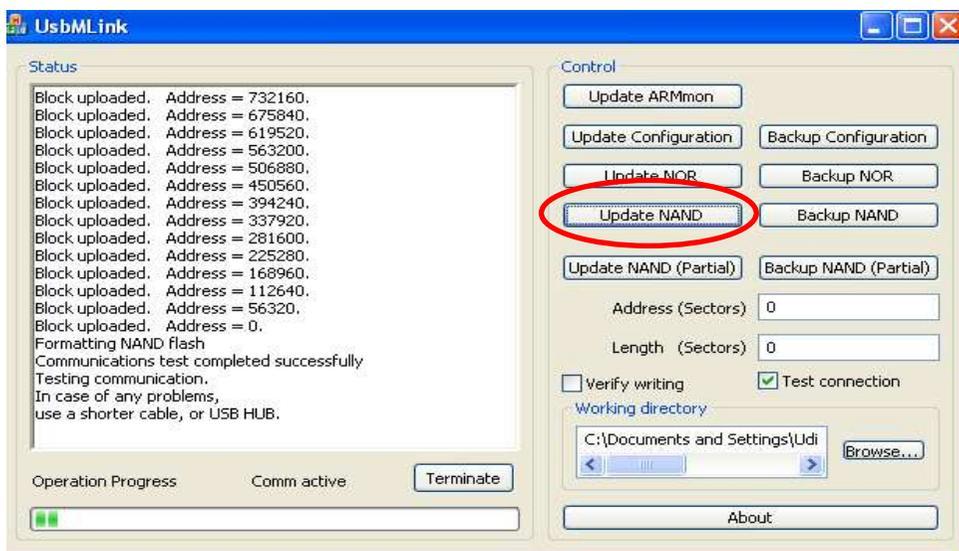

Figure 117:
- Press "Update NAND". The left side of the window will show the progress of the update (Figure 117).